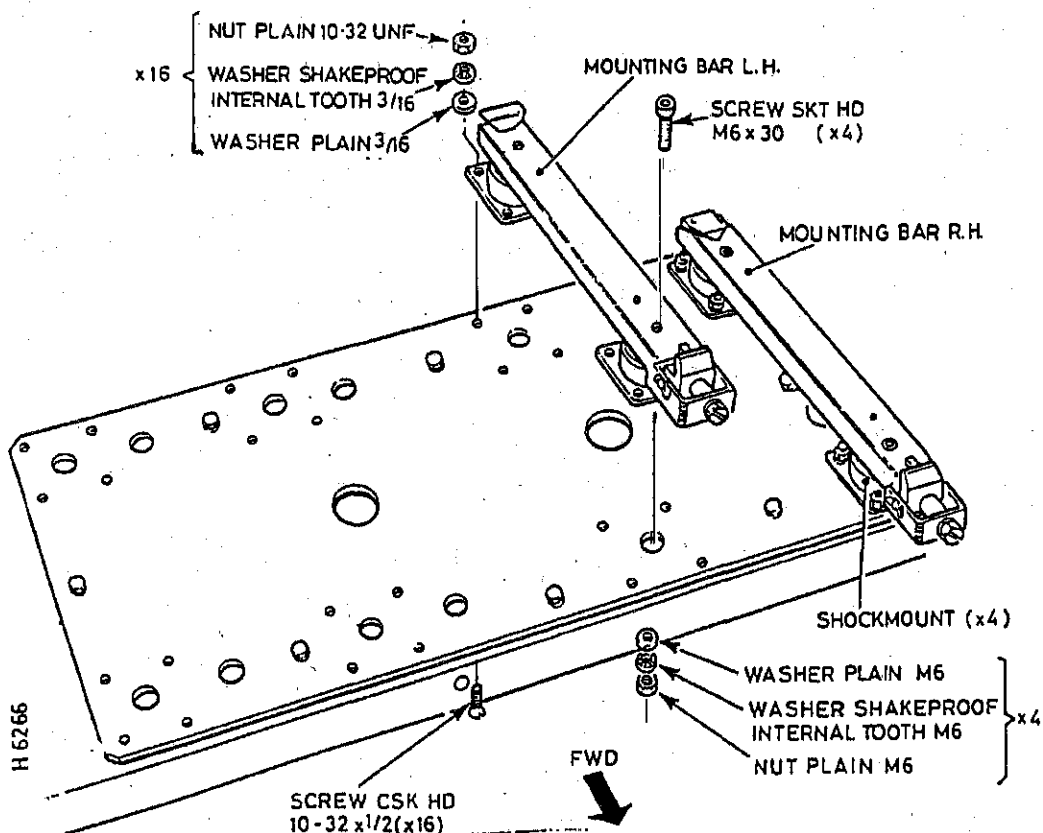

Fig 3 UK/VRC 353A radio mounting
18 The UK/VRC 353A Radio is mounted on the rear sill to the r.h.s. of the B Radio set position. Fit the UK/VRC 353A Radio as shown in Fig 3:
18.2 With reference to Fig 3, Fit a pair of Shockmounts (10) to Mounting Bar LH (7) and Mounting Bar RH (8). (Operation 6).